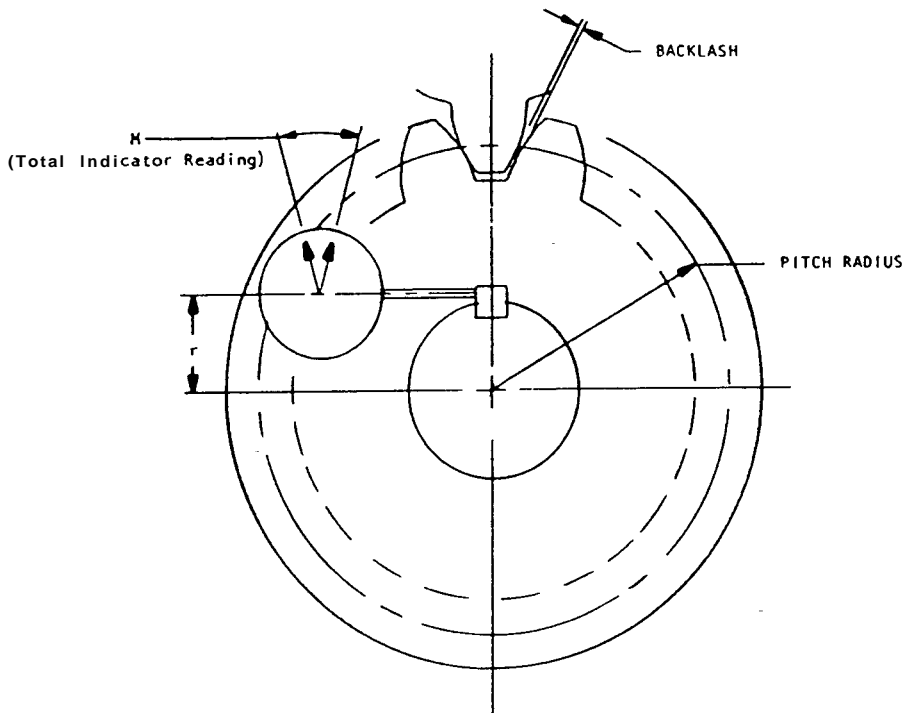

Figure 6
- 9.5 Measure the distance from the center of the shaft (500) to the contact point between the indicator and key (see Figure 6). This is the "r" value in the equation in Step 9.7.